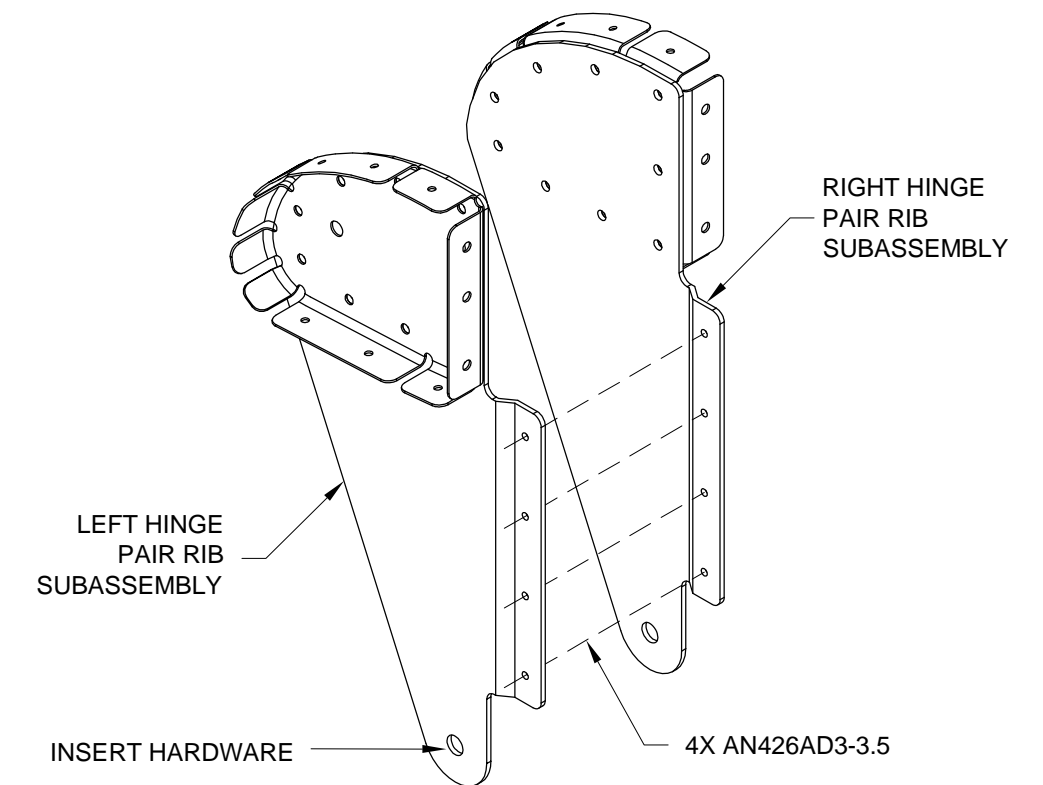

FIGURE 5: RIVET HINGE PAIR SUBASSEMBLIES
Step 5: Cleco together the Left and Right Hinge Pair Subassemblies as shown in Figure 5.
Step 7: Double flush rivet the joggled flanges of the Left and Right Hinge Pair Rib Subassemblies using the rivets called out in Figure 5.